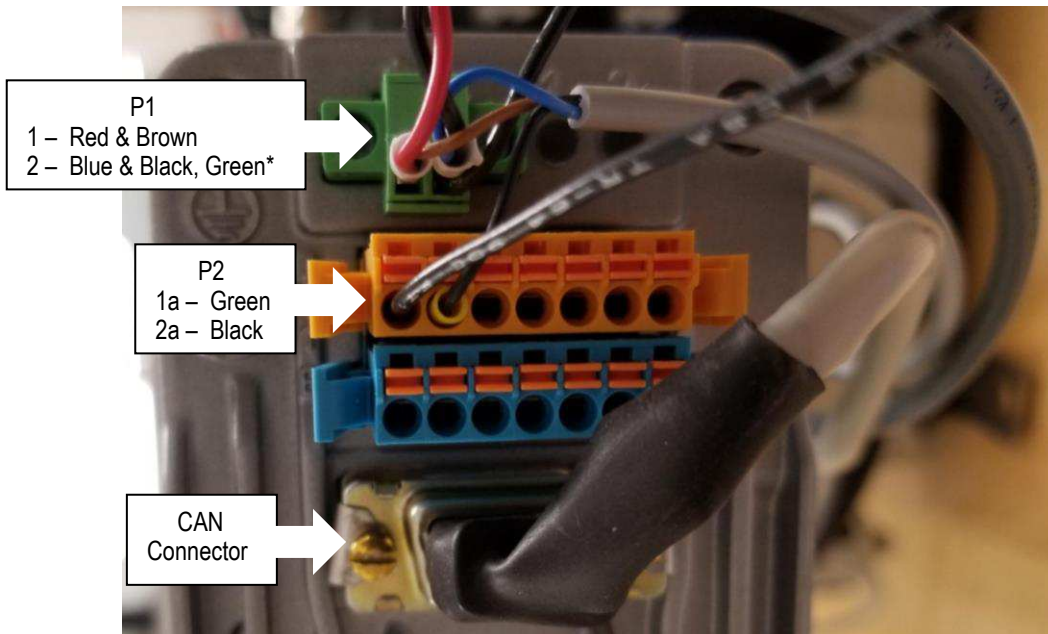

Figure 7
- Plug in the CAN cable connector and insert the Power/Proximity Switch cable connections (reference Figure 7). **Note: \*Green jumper on pin 2 of P1 is pre-installed.**